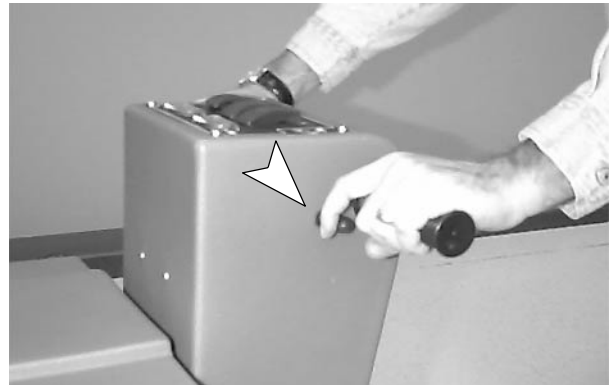

FIG. 14
7. To operate machine in reverse, simply pull reverse trigger, one speed (Figure 14).